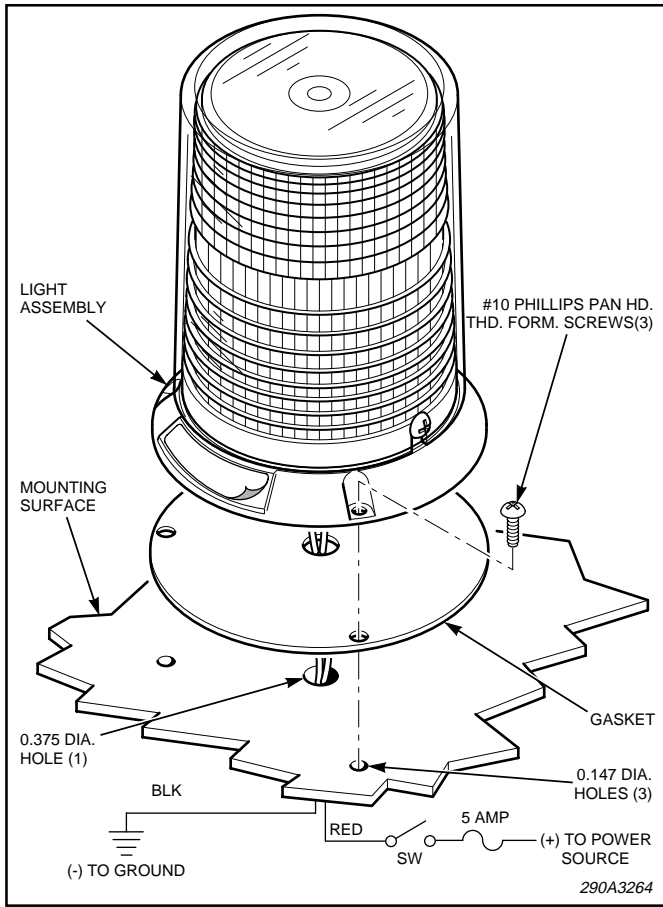

Figure 1.
c. Align the gasket over the four previously drilled holes. Route the red and black wires through the gasket and wiring routing hole as shown in figure 1.
d. Secure the base to the mounting surface with the #10 pan head phillips thread-forming screws (see figure 1).